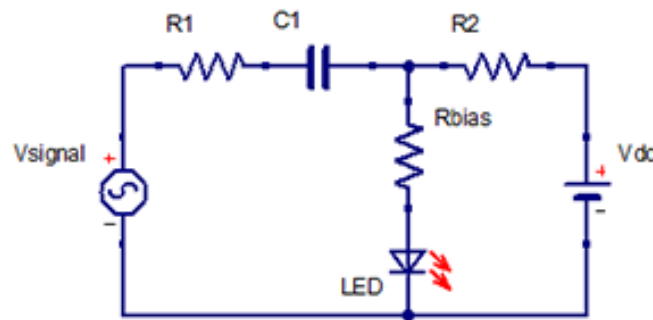

Figure 2: Signal Modulation Circuit
- a. You will incorporate the LED into the circuit shown in Figure 2. In order to understand the circuit better, particularly with an input of an AC signal (V_{signal}), let's carry out the following analysis. The equations for the impedance of a capacitor and resistor may help you:
- (b) Now build the circuit shown in Figure 2. If you want you can assume $R_{\text{bias}} = 0\Omega$.